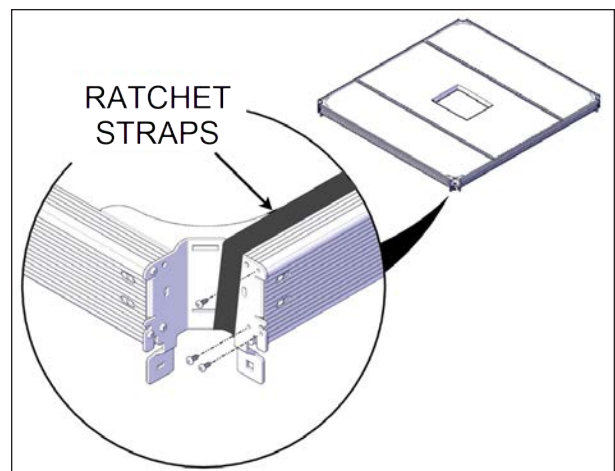

**FIGURE 42: CORNER AND CHANNEL INSTALLATION**
6. On one end of the cover, slide on corner brackets and C-channel assembly see Figure 42. It is recommended to slightly engage the top flange before the bottom when sliding the C-Channel onto the foam panel.